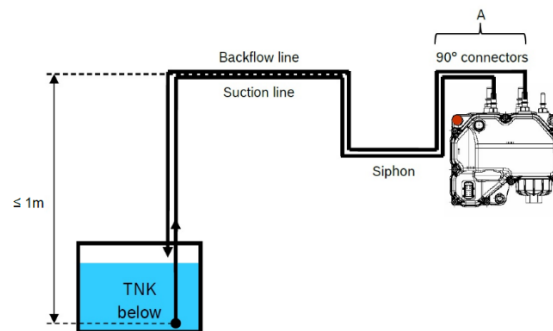

Figure 7-27. Layout: Tank below supply module
- Figure 7-27 and 7-28 are the recommended layouts for installing the suction line and the backflow line. A siphon must be integrated in the system. It has to be appropriately sized to trap any residual AUS from the lines. The section A should be as short as possible.